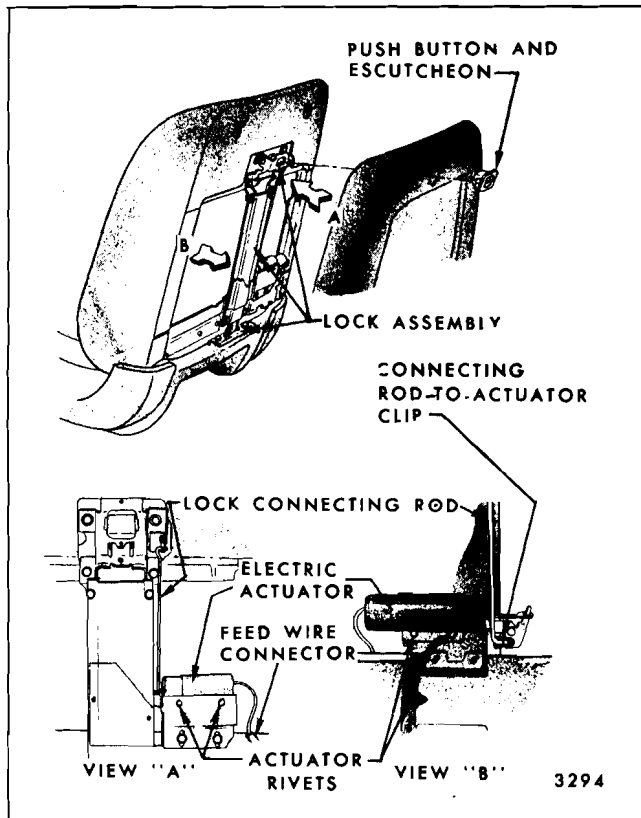

Fig. 15-54—Strato Seat Back Electric Lock and Lock Actuator - Cadillac
- Disconnect actuator feed wire connector (Fig. 15-54).
4. To remove electric actuator assembly, disengage lock connecting rod-to-actuator clip (Fig. 15-54) and disengage rod from actuator.
2. On Cadillac styles with electric actuated seat back locks remove seat back panel, as previously described. Disconnect electric actuator feed wire connector (See Fig. 15-54) and pull feed wire out of seat back.